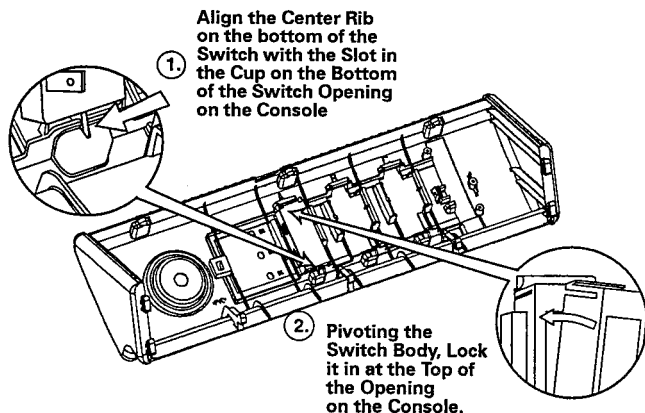

Figure 4-5
1. **To remove** - Depress the tab at the top of the switch with a screwdriver to disengage the tab from the console, then pivot the switch away from the console to remove. (See Figure 4-5)